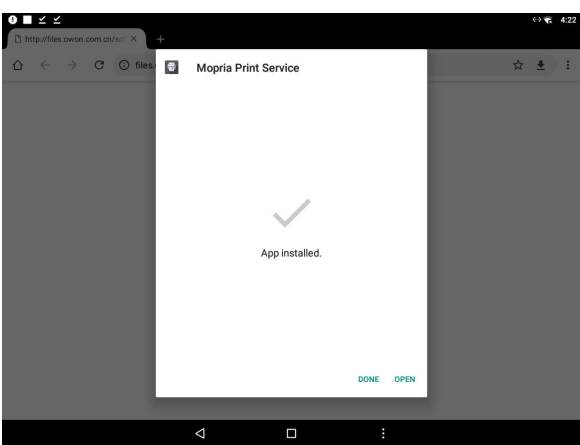

Figure 5
5. After install success,click open can open print app.As shown in Figure 5.